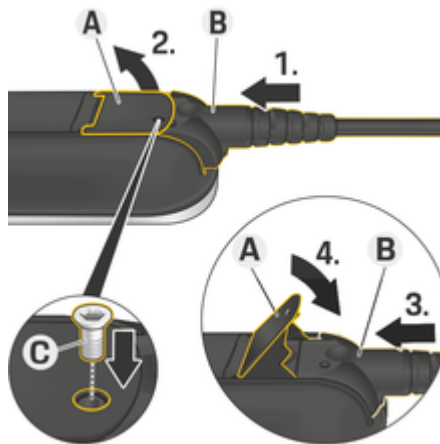

Fig. 9: Securing cables and plugs
- ✓ The lever **A** (Fig. 9) is closed.
1. Insert the plug **B** (Fig. 9) into the control unit until resistance is first felt.
5. Secure the plug **B** to the control unit using screw **C** (Fig. 9).